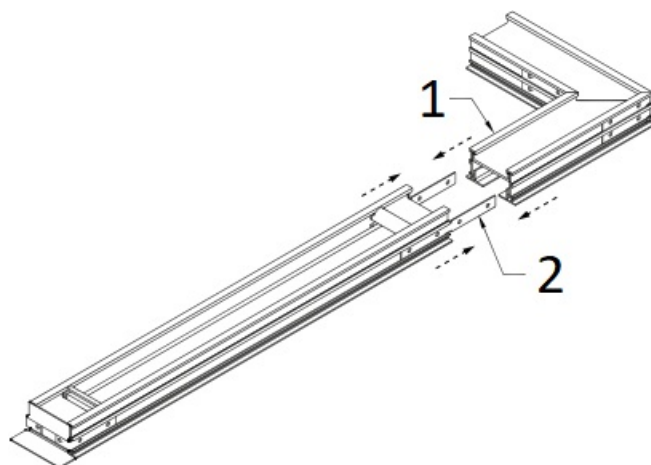

Figure 16. Connecting Segments
- If multiple sections of DFL are required, repeat previous step by lifting additional sections into the ceiling opening. Be sure to insert Spline Support Clips (SS clips) into the DFL butt-cut ends to ensure a tight and aligned connection as shown in Figure 16.